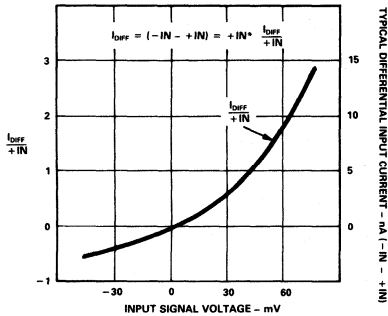

Figure 2. Differential Input Current vs. Input Signal Voltage Normalized to +IN
- 7Bias currents are not symmetrical with input signal level and flow out of the input pins. The input bias current of the inverting input increases with input signal voltage, see Figure 2.